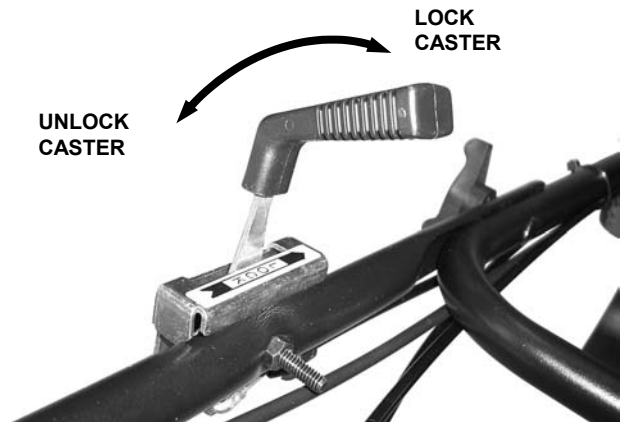

FIGURE 2.7
2. Move swivel caster lock lever, located on left side of handle assembly, to 'LOCK' position to lock clip down over caster stud. See Figure 2.7.
3. To release caster, simply move swivel caster lock lever back from locked position. See Figure 2.7.